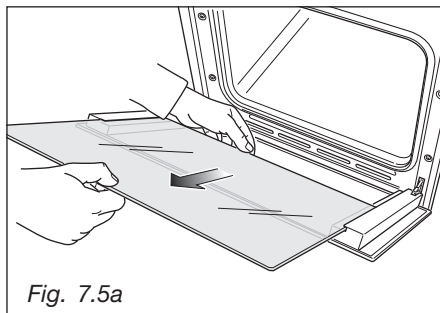

Fig. 7.5a
- Gently pull out the inner pane of glass (fig. 7.5a).